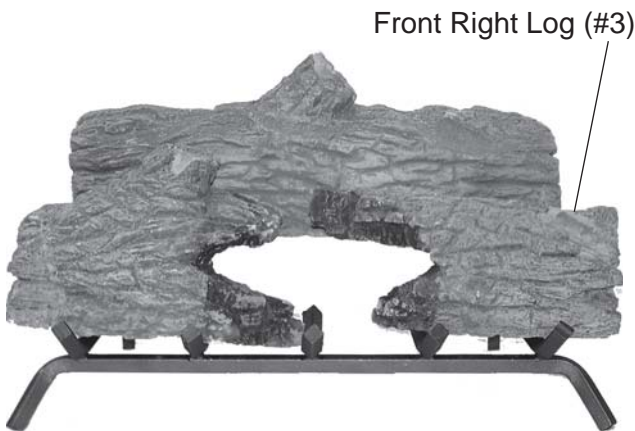

Figure 21 - Placing Front Right Log (#3)
4. Place front right log #3 on the front of the grate and to the right. See *Figure 21*.